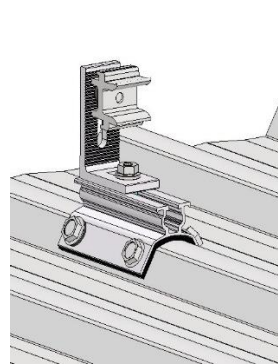

Fig 4.1.4A: TrimFix EMU
| TrimFix        | Trimdek              | Direct to Sheet | Fig 4.1.4A |
The installation process involves firmly placing KingFix/TrimFix/SingleFix and Corrugated EMU brackets on top of the roofing sheet ribs as per the installation plan. The fasteners are secured with the help of the supplied 4 self-drilling universal screws, 6.2mm x 25mm (2 on either side of the roof rib) with tightening torque of 6Nm, as shown in Figures 4.1.4A, 4.1.4B, 4.1.4C and 4.1.4D respectively.
- II. The fasteners are secured with the help of the supplied 4 self-drilling universal screws, 6.2mm x 25mm (2 on either side of the roof rib) with tightening torque of 6Nm, as shown in Figures 4.1.4A, 4.1.4B, 4.1.4C and 4.1.4D respectively.